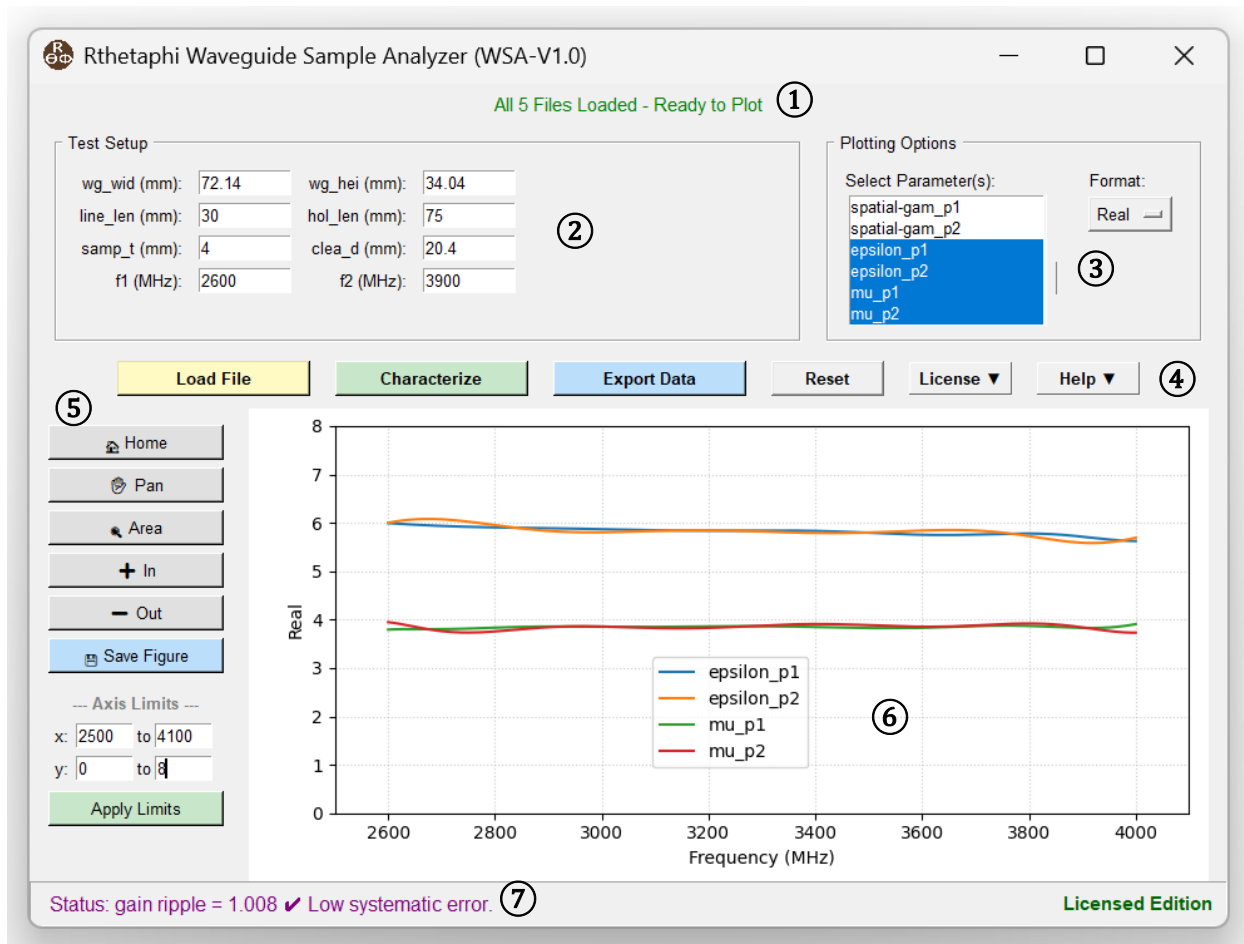

Fig. 4. Graphical user interface (GUI) of WSA
Fig. 4 shows the user interface of the Rthetaphi Waveguide Sample Analyzer (WSA). The interface is organized into functional regions ① to ⑦ for data import, parameter configuration, electromagnetic characterization, result visualization, and data export.
Click **Load File** to import the required .s2p and .s1p measurement files. The **Workflow Status Bar** (region ① in Fig. 4) indicates the next measurement file to be loaded (e.g., **Load Thru**, **Load Line**, **Load Holding**, **Load Port 1 Short**, and **Load Port 2 Short**) and confirms when all required files have been successfully imported.
Before running electromagnetic characterization, enter the required measurement parameters in the **Test Setup Panel** (region ② in Fig. 4). These parameters describe the waveguide configuration, sample geometry, and frequency range used for the analysis.
During the analysis, the **Operation Status Bar** (region ⑦ in Fig. 4) displays the current processing status and reports any warnings or errors detected in the measurement data.
To save the displayed graph, click the **Save Figure** button in the **Plot Navigation Toolbar** (region ⑤ in Fig. 4). The current plot is saved as an image file.
To export the numerical data corresponding to the displayed graph, click **Export Data** in the **Main Toolbar** (region ④ in Fig. 4).
- Verify that all five (5) required measurement datasets have been loaded successfully using the **Workflow Status Bar** (region ① in Fig. 4).
- Check the values entered in the **Test Setup Panel** (region ② in Fig. 4).